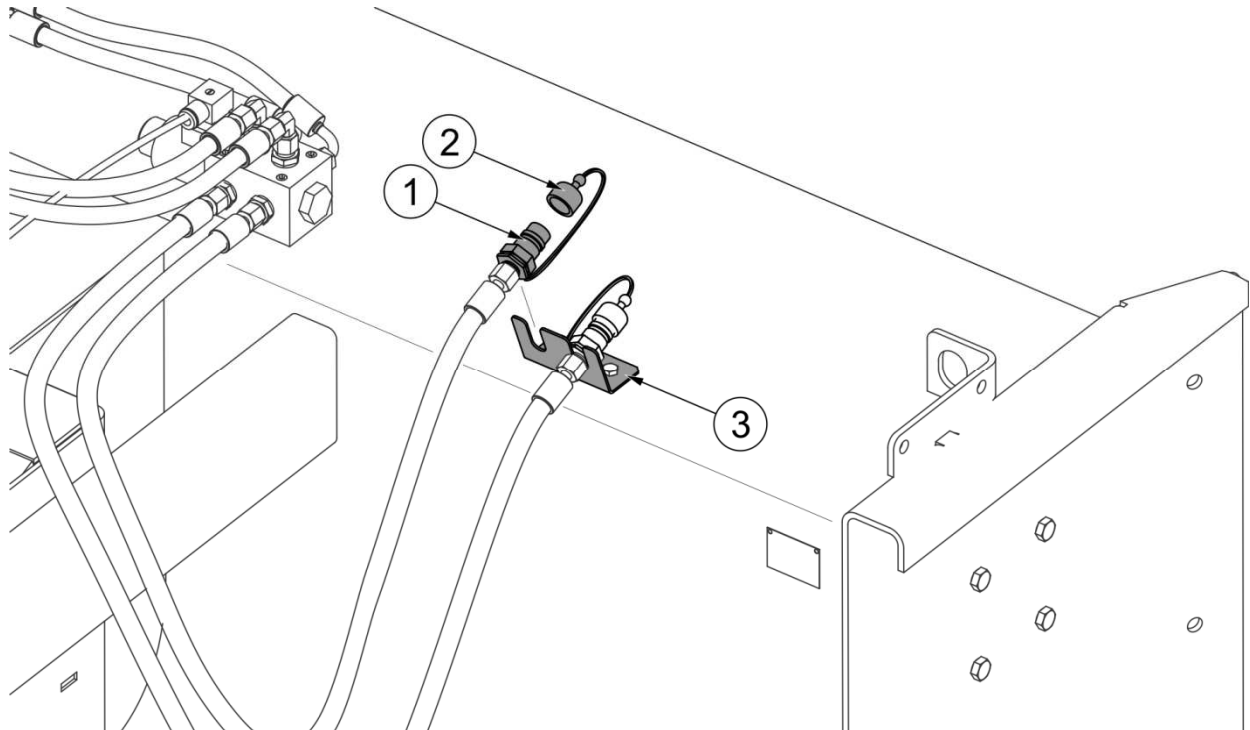

FIG. 4.13 **Protection of hydraulic quick coupling plugs**
- Disconnect discharge chute control hydraulic connectors, secure them with caps and put in special bracket on the snow blower chassis (FIG. 4.13)